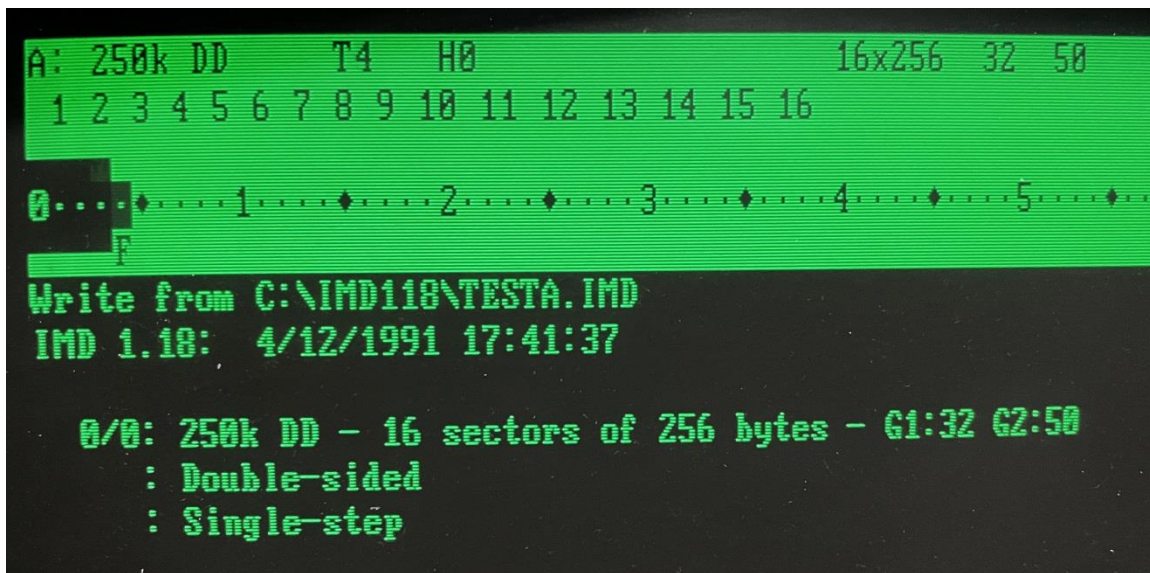

Fig. 8. Test-file TESTA.IMD is written to a new virgin disk C; note that IMD does this in the sequential sector order, i.e. with $I = 1:1$.
5. The next step is to write the TESTA.IMD file back on the virgin disk C, without changing the IMD settings. Figure 8 shows this write procedure going on: